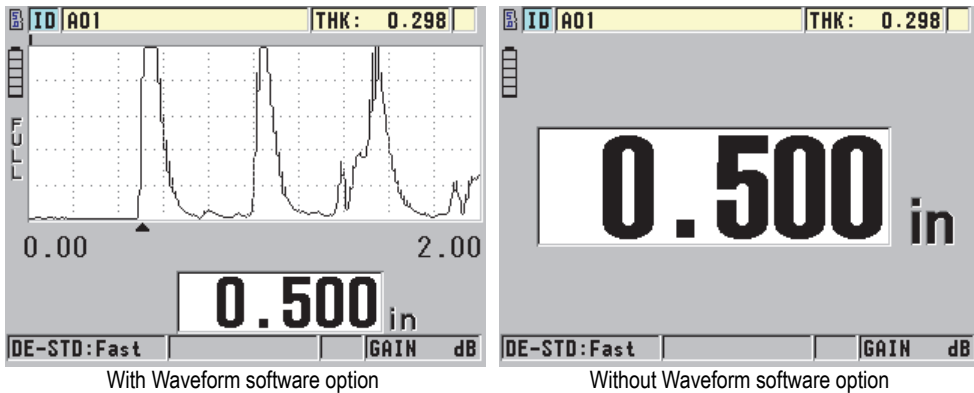

Figure 5-12 Reading the measured thickness
- Read the measured thickness value for the tested part (see Figure 5-12 on page 65).